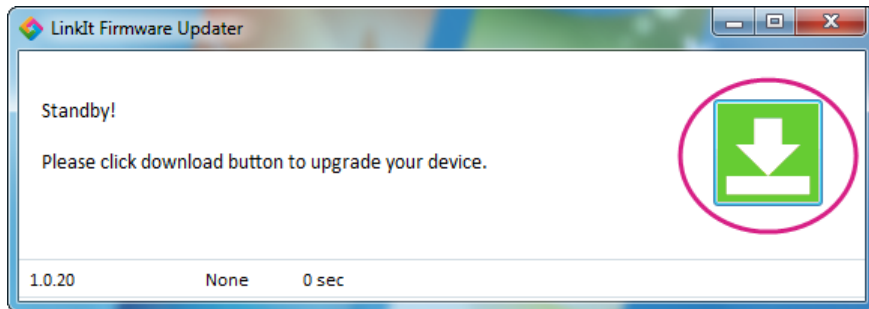

Figure 15 Click the download button to start the firmware update process
- 3 In LinkIt Firmware Updater, click the download button, as shown in Figure 15.